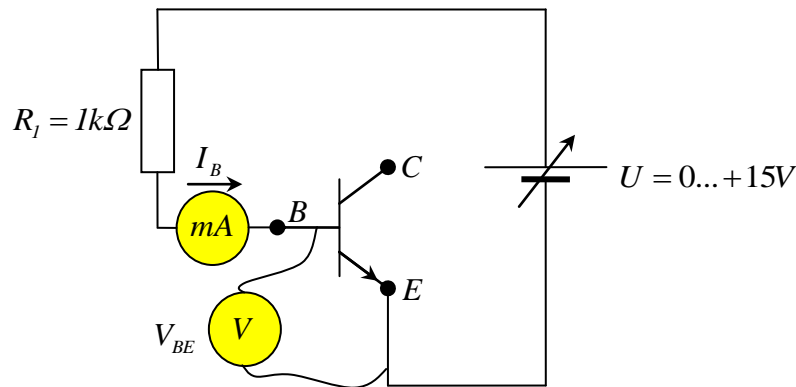

Figure 1. Base-emitter diode characteristic for open collector
- Assemble the circuit as shown in Figure 1.